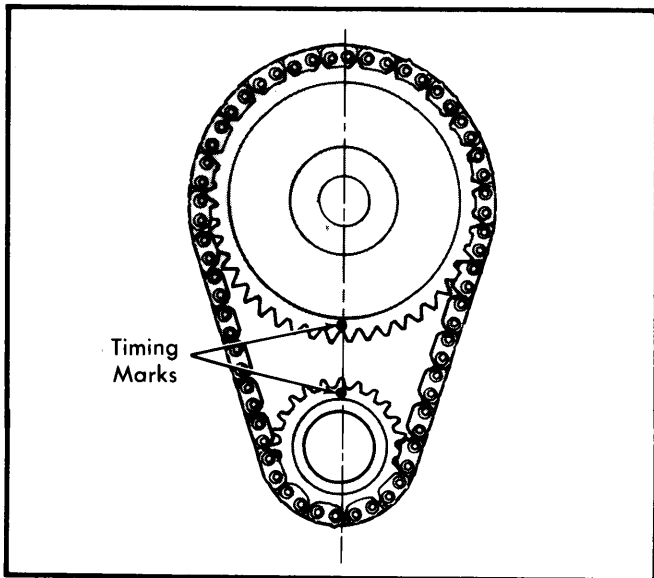

Fig. 10 Timing Chain Sprocket Alignment
**Removal** — Crank engine until timing marks are aligned. Remove camshaft sprocket bolt and washer. Slide both sprockets and timing chain forward, removing them as an assembly. See Fig. 10.
**Installation** — Install timing chain on sprockets with timing marks aligned according to Fig. 10. Slide both sprockets and timing chain onto engine. Install camshaft sprocket bolt and washer. Tighten bolt, and oil timing chain. Install other parts previously removed.